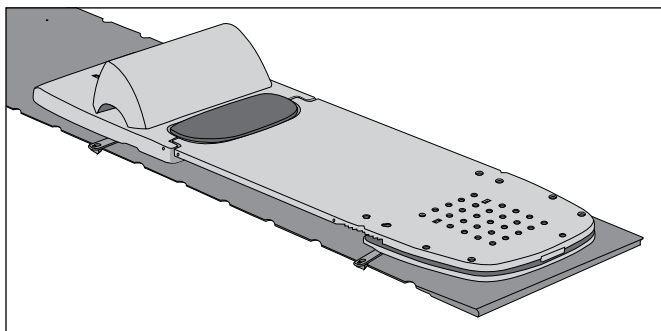

FIG. 3
3. Push the Access Supine down onto the Locating Bar to lock the Access Supine into place. (Fig. 3)